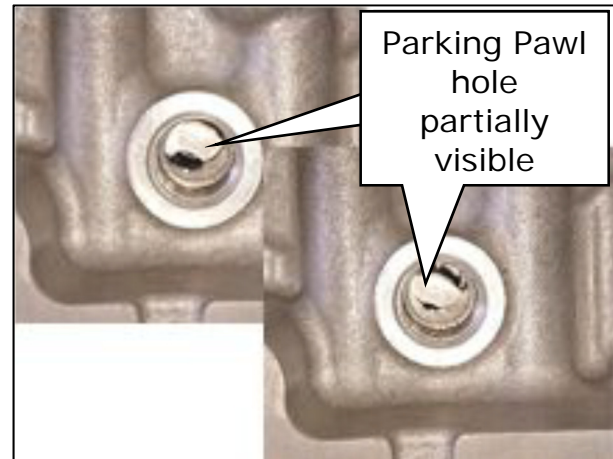

Figure 13
13. If the hole for the Parking Pawl is partially visible through the Transmission Case hole as shown in Figure 13, skip to step 16 on page 9.
- If the Parking Pawl raised and the hole is visible as shown in Figure 13, skip to step 16 on page 9.